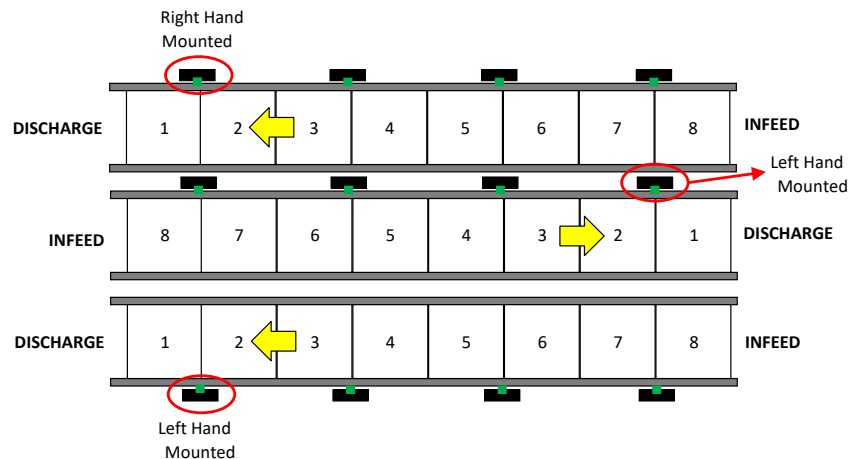

Figure 4: Black squares represent DZCs, Hytrol' standard to number conveyor zones starts at one (1) from the discharge zone.
1. Identify the mounting side of the zone controllers on the conveyor's channel per unit, it could be left or right when standing at infeed end looking toward discharge end (product flows from infeed to discharge). Figure 4, shows an example with conveyor sections back to back.